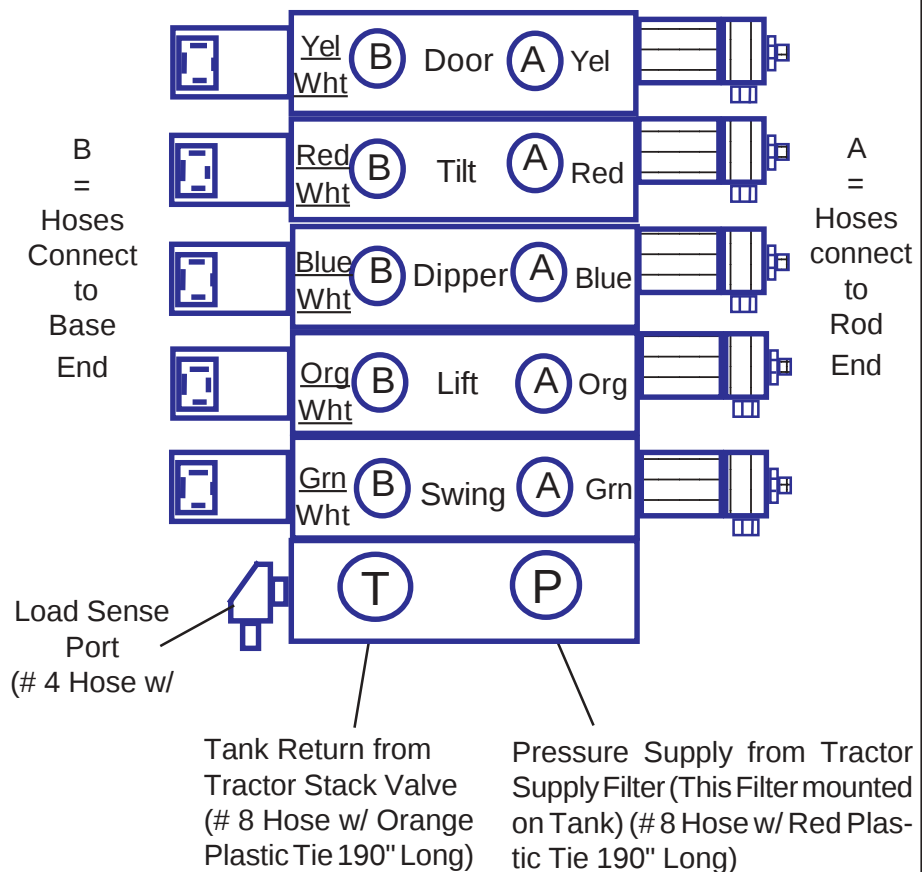

Figure 40
C. The Load Sense Hose runs from the Tractor Stack Valve to the Lower LH side of the Control Valve (**See Figure 40**). This will be an Elbow fitting coming out of the Lower Valve End Plate next to the "P" Port opening. If the Valve does not have this Load Sense Port, Check to make sure the Valve is a Load Sense Type.
D. Hose routing Schematic. For Hose Routing Stack valve to Control Valve (**See Figure 40**).
9. Stack Valve to Control Valve Hose Routing. The Hoses from the Stack Valve are the hoses that run from the rear of the Tractor Stack Valve to the front of the Tractor. This is where the Machete control Valve is mounted on the Hydraulic tank. These Hoses run alongside the Right Tractor Frame Rail. The Hoses will be tied to the Tractor frame rail later in the Assembly process. (See Figure 40 & 41